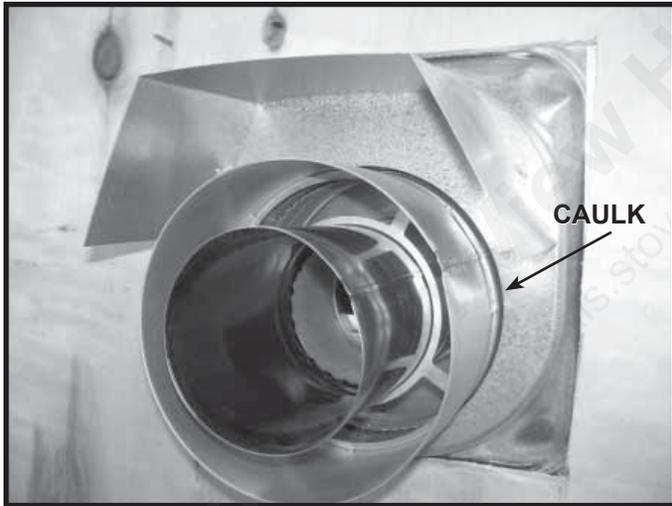

Figure 6.1. Firestop - Exterior View
1. Seal the firestop on the interior and exterior by caulking around the perimeter using caulk with a 300°F minimum continuous exposure rating. See Figure 6.1. and 6.2.